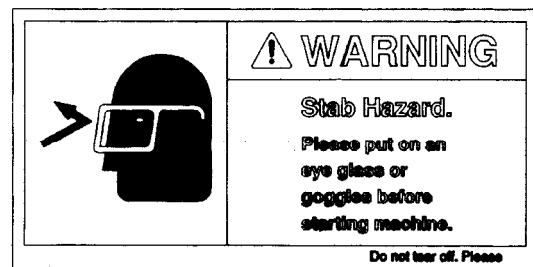

Fig 3.7.4
4. Please put on an eye glass or goggles before starting machine (Fig 3.7.4) .Located in position “D”.